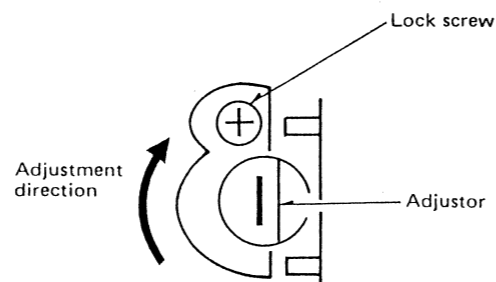

Fig: 4-3. Adjustment direction
- 1) Loosen the lock screw and turn REST switch adjuster in the detection as shown figure 4-3.